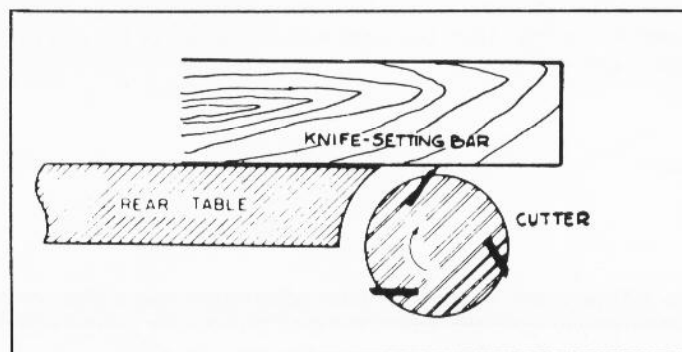

Fig. 22
4. Place a knife setting bar, made of a piece of hardwood, approximately 12" long, jointed straight on one edge, on the rear table, as shown in Fig. 22.